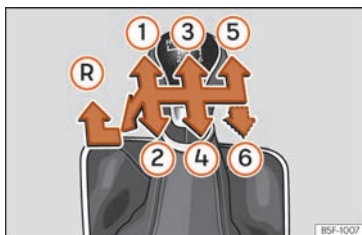

Fig. 52 Gear shift pattern of a 5 or 6-speed manual gearbox.
The position of the gears is indicated on the gearbox lever » » » **Fig. 52**.
- With the gearbox lever in neutral, push it downwards, move it to the left as far as it will go and then forwards to select reverse » » **Fig. 52 (R)**.